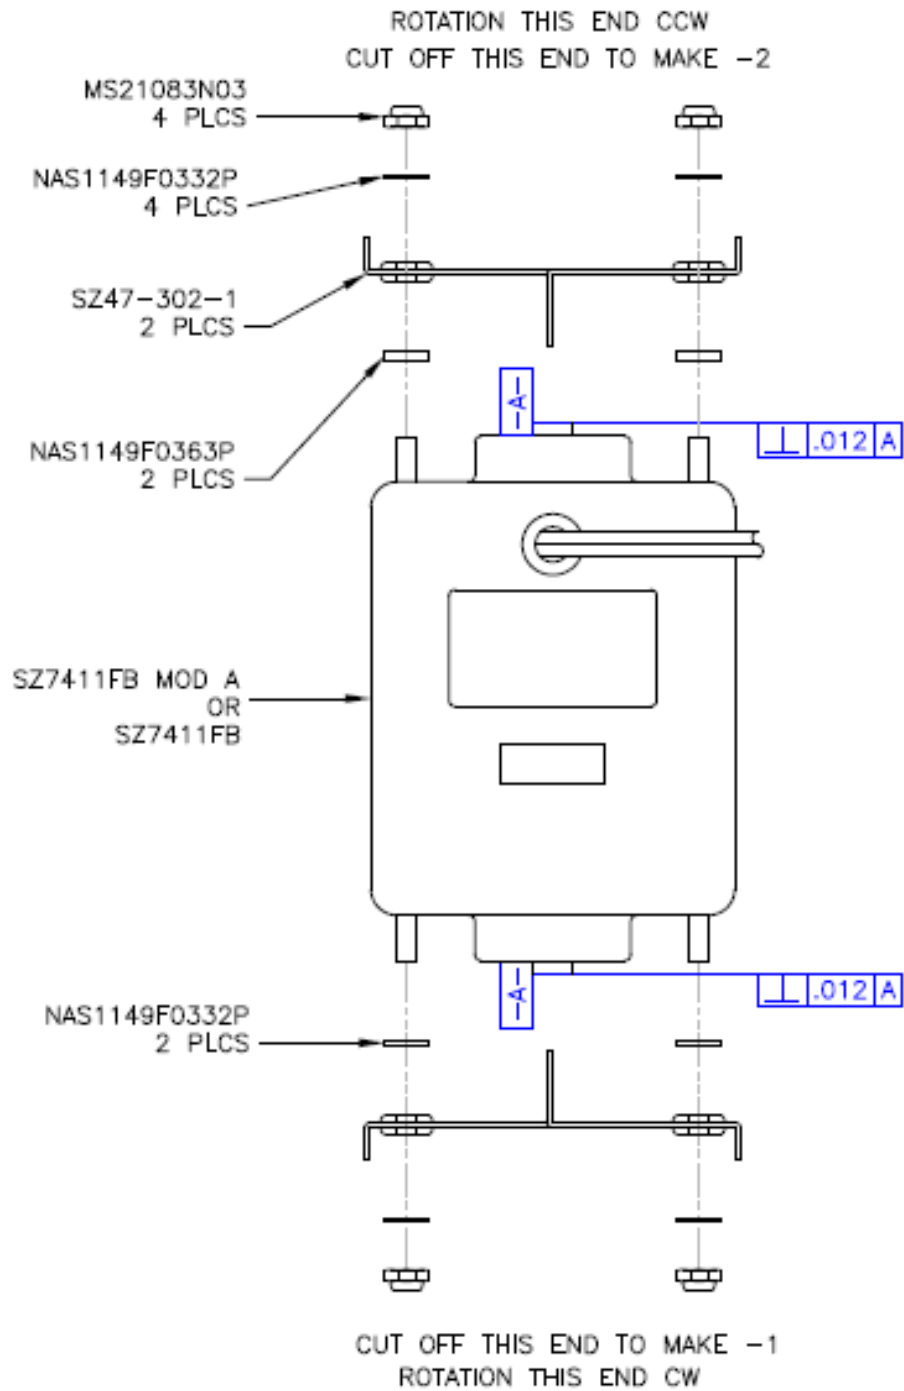

FIG. 1
- 9.4 After the opposite shaft has been removed place 1 each Motor Support SZ47-302-1 on each end of the motor. Secure as shown on parts break down, see FIG. 1.